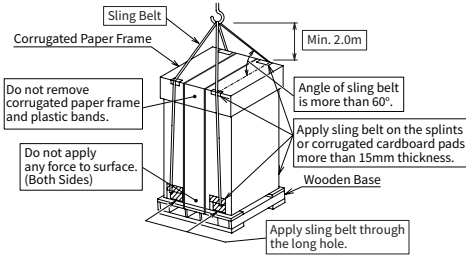

Fig. 4.1 Hanging Work for Transportation
- Hang the unit under packing condition with 2 sling belts as shown in Fig. 4.1.